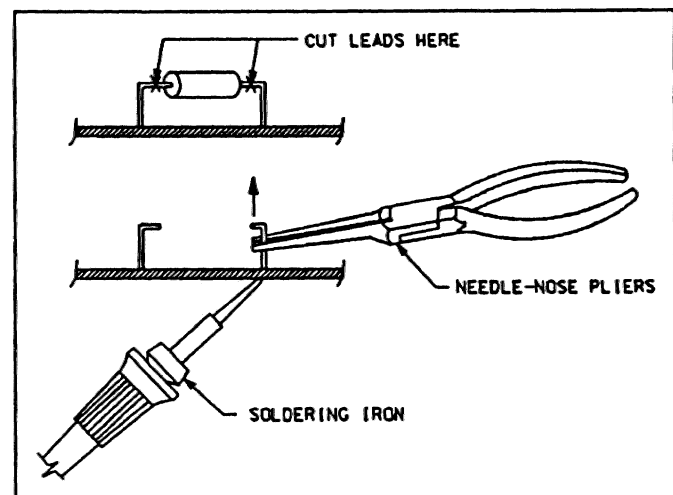

FIGURE 4-4. Component Removal
4.2.6 Component Removal. If a component is defective and must be replaced, cut the leads near the body of the component as shown in Figure 4-4.